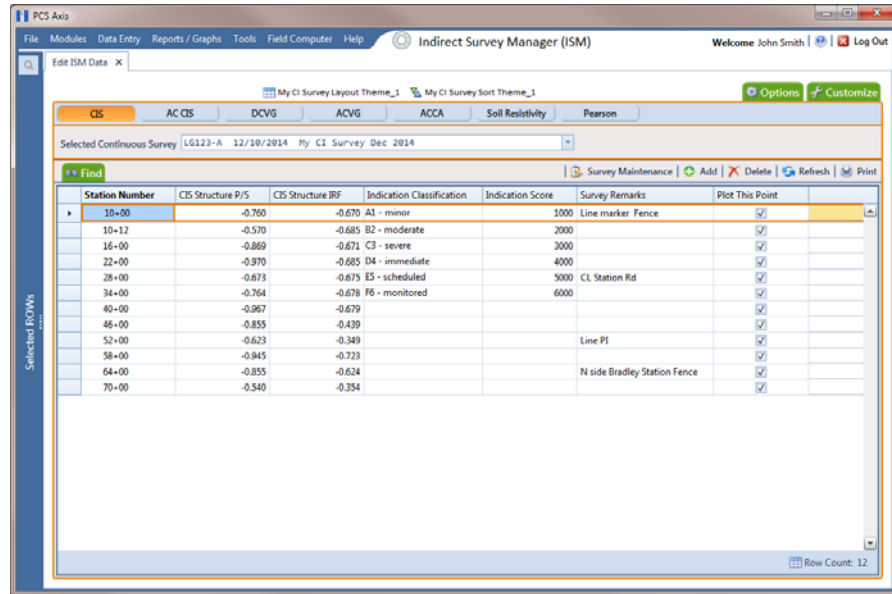

Figure 7-58. Edit ISM Data
- 4 Click a button labeled with the type of continuous survey data you want to work with, such as the **CIS** button (Figure 7-58, page 272).